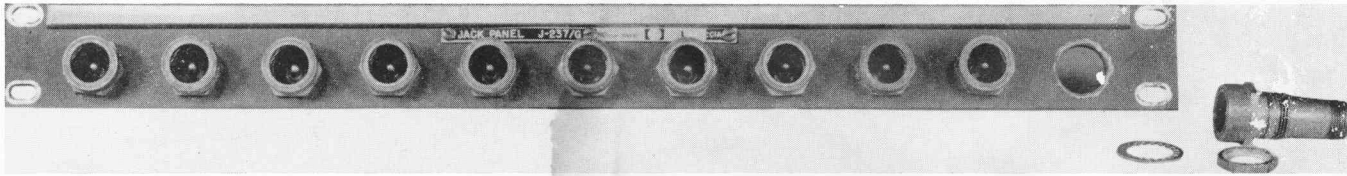

Figure 1-11. Jack Panel AN Type J-237/G, Front View With One Connector AN Type UG-294/U Removed
(7) JACK PANEL AN TYPE J-237/G (Figure 1-11).—Jack Panel AN Type J-237/G is a size A panel,